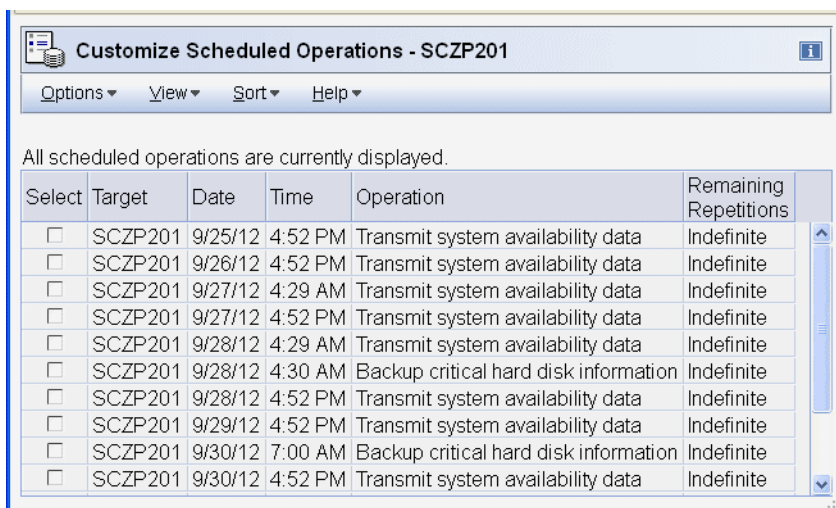

Figure 1-87 Customize Scheduled Operations - access external time source removed
- The final Customize Scheduled Operations panel confirms: there are no more access external time source scheduled operations to be executed (Figure 1-87).